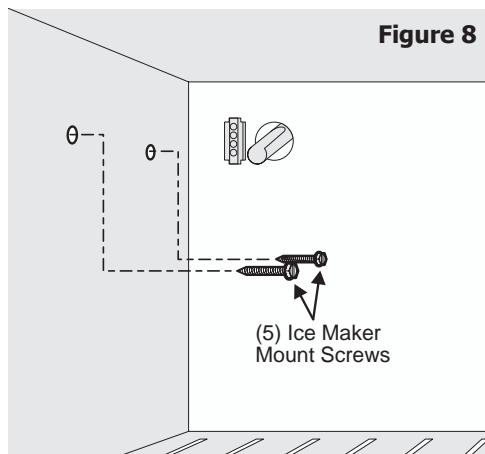

Figure 8
12. Start two, long, Ice Maker mounting screws (5) into freezer wall where plugs were removed in Step 4. Turn each screw clockwise five turns (Figure 8).